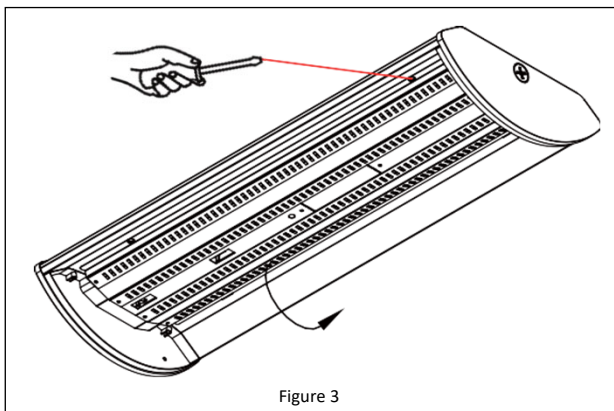

Figure 3
7. Remove the 2 screws holding the LED panel. Allow the panel to swing open. **See Figure 3.**